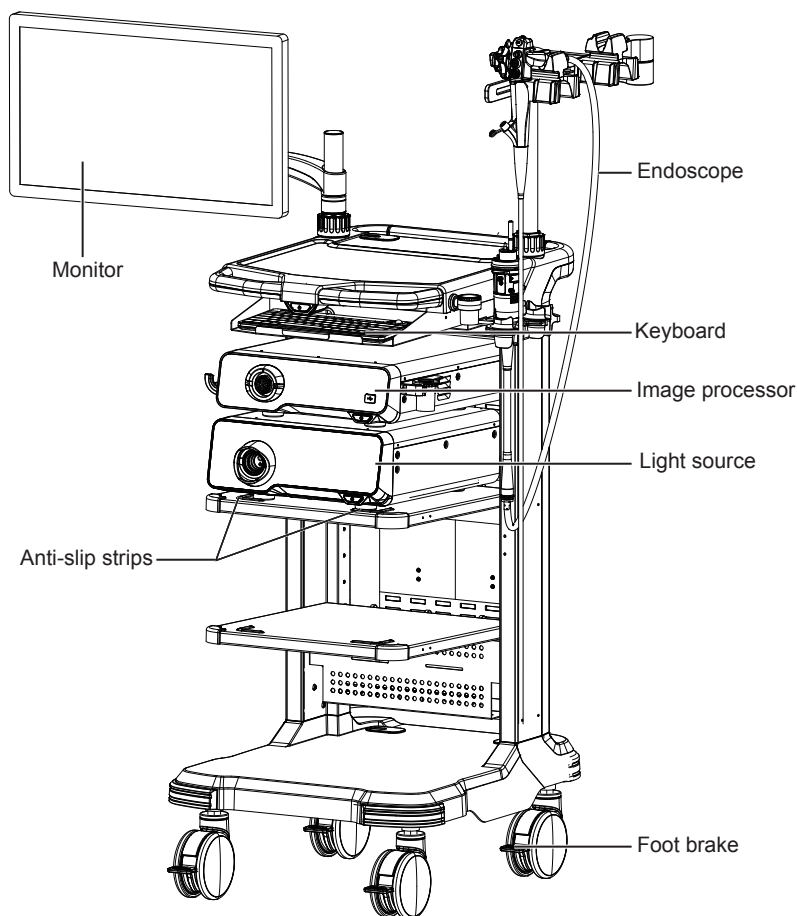

Figure 17 Placing the Devices
4. Hang the control section of the endoscope on the endoscope hanger, and put the connector section of the endoscope on the connector section holder, as shown in Figure 17.